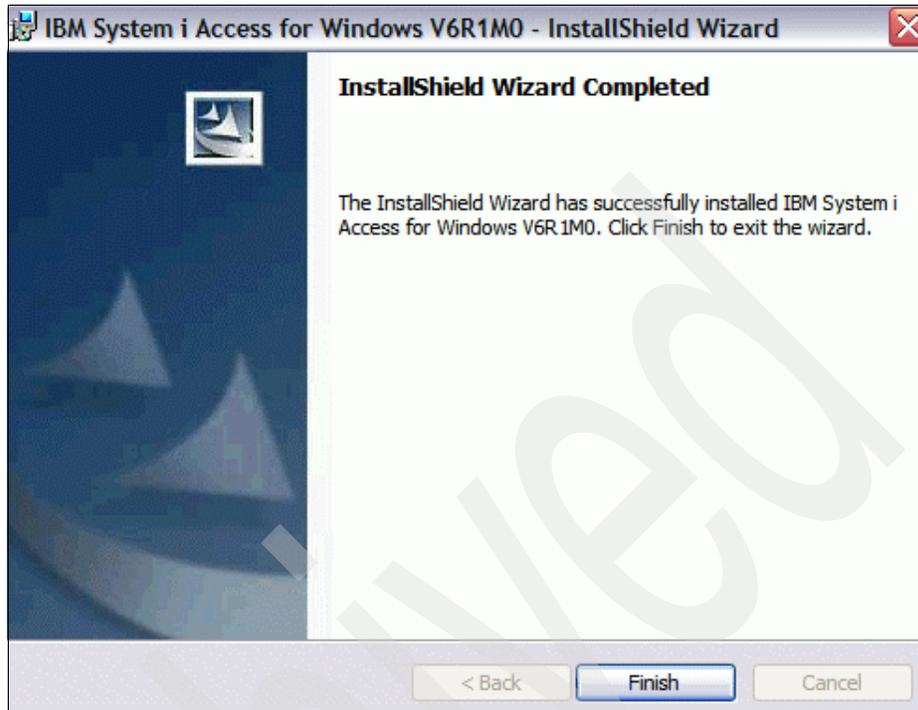

Figure 5-17 IBM System i Access for Windows installation completed
10. Figure 5-17 on page 234 indicates the installation process was successful. Click **Finish** to continue.